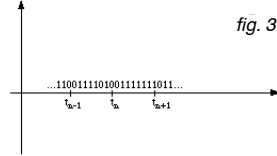

fig. 3
- Serial mode: over only one wire, one bit at a time (Fig. 3)